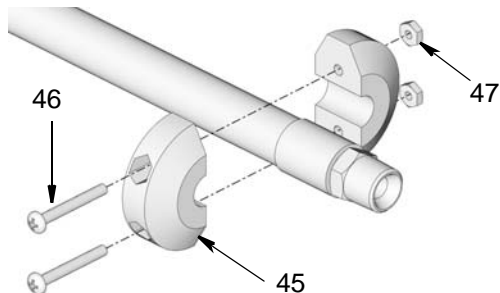

FIG. 14
14. Reinstall ball stop and dispensing valve (FIG. 14).
15. Remove c-clamp (A).